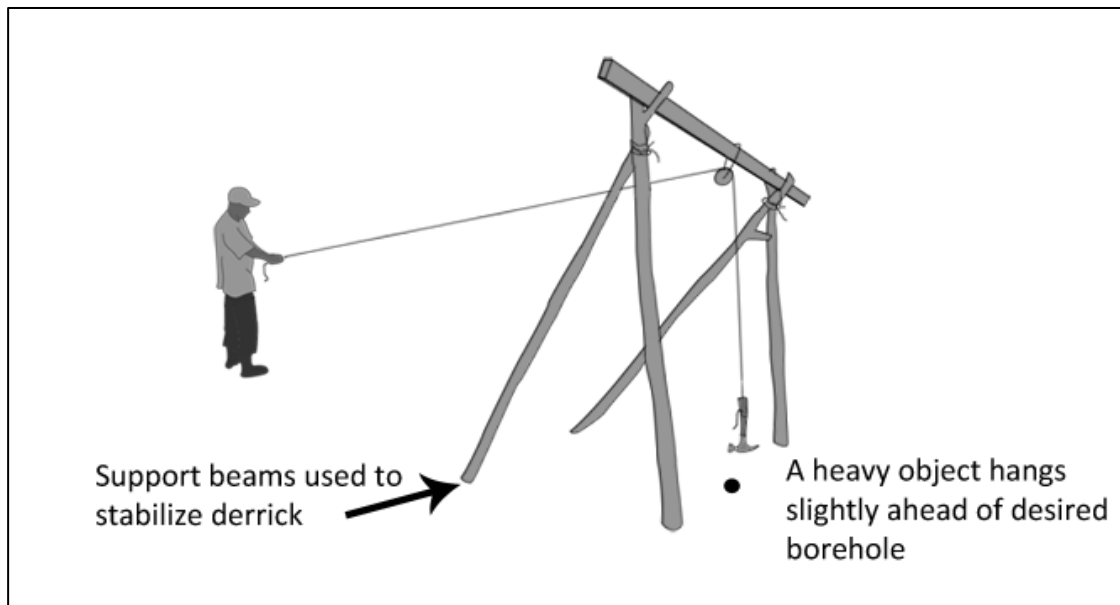

Figure 25 - Construction of Derrick Structure
- ii. Place a timber down each hole. When determining the pieces of timber to use, locate pieces that are Y-shaped as this will ensure greater ease when securing the crossbeam (see Figure 25). After timbers are in place, pack in surrounding hole with earth, ensuring the timbers are aligned upright and firmly in place.
- viii. Insert one end of the rope into the pulley and tie a heavy object such as a pipe wrench or hammer to it as demonstrated in Figure 25 (previous page). The tense rope will sit directly above where the borehole will be. As pulling begins, the pulley tends to swing forward as the rope is tensed. Therefore, locate the borehole 1-2" (3-5cm) forward from where the rope hangs.